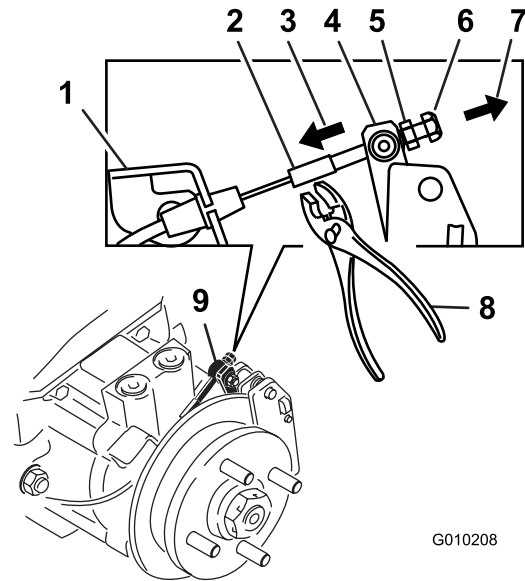

Figure 73
9. Using hands and fingers only, push the caliper lever arm to engage the brake pads on the rotor until the lever stops (Figure 73).
10. While holding the lever at the stopped position, use the other hand or fingers to pull the cable threaded end tight through the swivel. Spin the standard nut against the swivel (Figure 73).